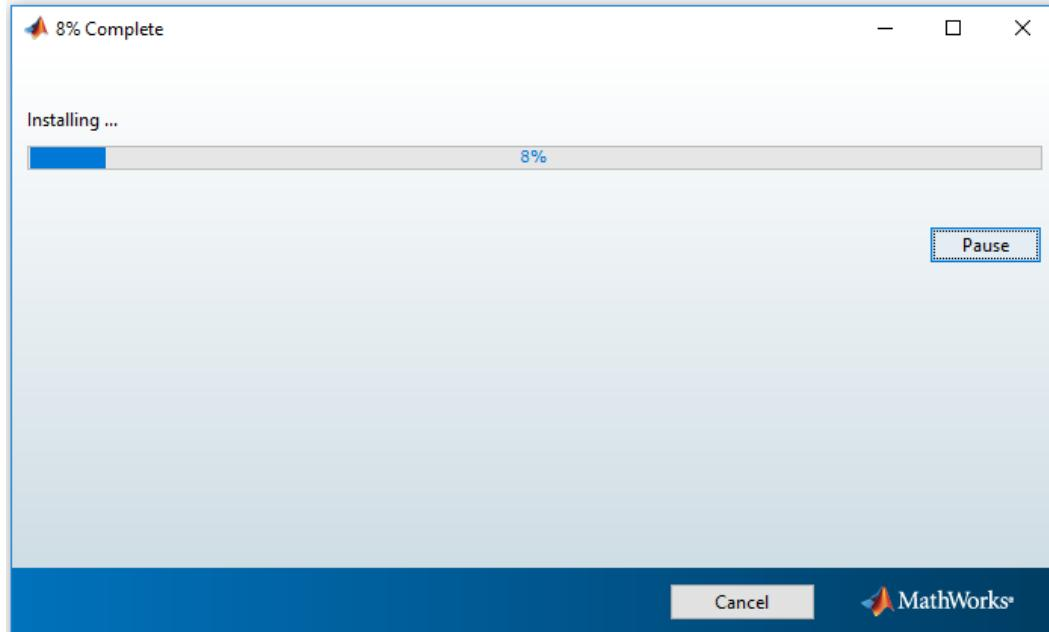
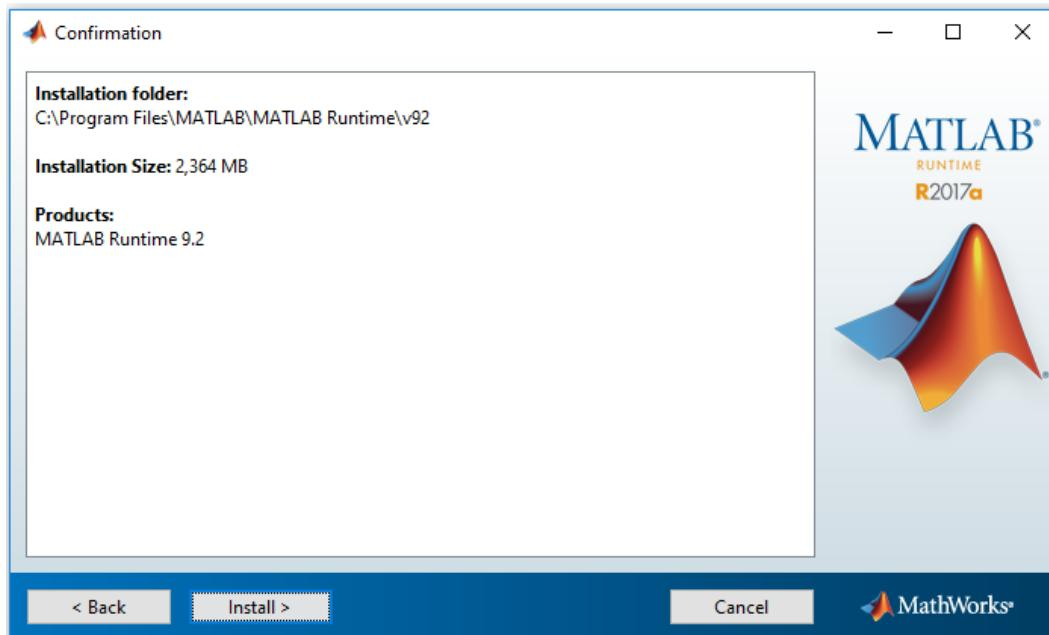

Figure 2.5
Figure 2.6
4. On the next window, when the user clicks “install” button, MATLAB Runtime installation will start, which can take several minutes depending on the computer speed (Figure 2.5 and Figure 2.6).